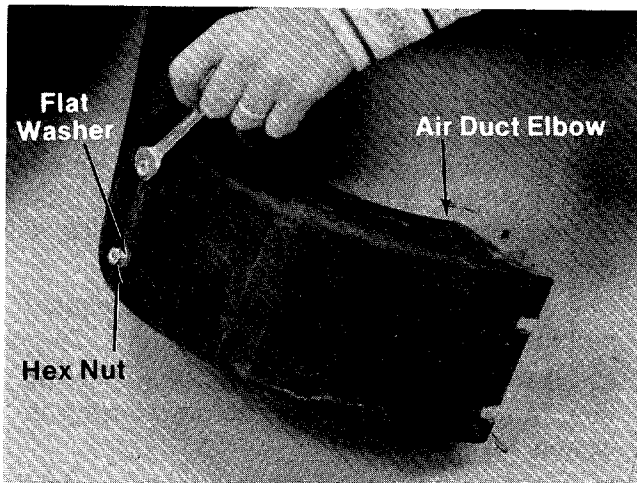

FIGURE 1.
(Refer to figures 1, 2 and 3)
1. Place the upper handle in position and fasten with four (4) hex screws and hex centerlock nuts provided.
2. Place the air duct liner (studded end first) into the elbow of air duct. See figure 1.
5. Secure the two (2) hex nuts onto the air duct liner studs at the air duct elbow.
7. Fasten the deflector on the top of the air duct with three hex screws, flat washers and hex nuts. (See figure 1.)